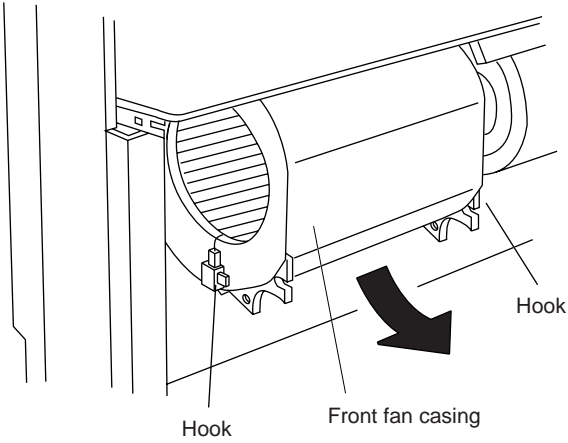

Fig.12
(1) Unlatch the 2 hooks on each side to take off the front fan casing. (Fig. 12)